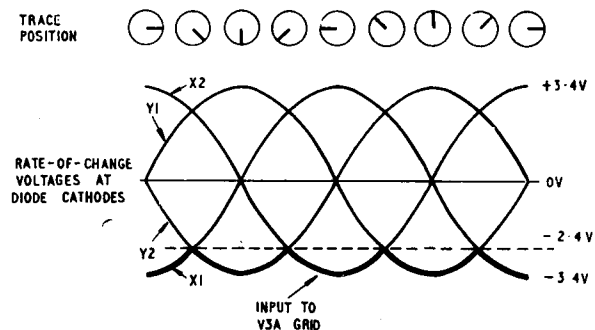

Fig. 6. Rate-of-change voltages
to negative values and back in a sinusoidal manner, taking one complete period of aerial rotation to complete the cycle. In consequence, the rate-of-change voltage resulting from differentiation varies between $-3.4V$ and $+3.4V$ during the same period. To ensure that there is always a rate-of-change voltage of correct polarity (negative) and sufficient amplitude to operate V3A and thus hold off the blanking, inputs are accepted from all four deflector coils (X1, X2, Y1, Y2). Provided the scan is operating correctly, there is then always one of the four rate-of-change voltages sufficiently negative to hold off the blanking, whatever the trace position (fig. 6).
(Note, however, that RV2 is in practice set up for the blanking condition rather than the non-blanking.) While the X1 scan is holding off the blanking via PL5, the anode of V2A is more negative than $-2.4V$, so the other three diodes are backed off and have no effect on the circuit. As the scan comes round to the S.E. 45 deg. position, X1 input moves less negative towards $-2.4V$, and Y2 input at PL4 moves more negative towards the same value, so that control of the circuit passes from X1 to Y2 coil as the trace moves through the 45 deg. position. The actual voltage applied to V3A grid is shown by the heavy line in fig. 6.
11. When the trace is inclined at 45 deg. to the horizontal (second trace position in fig. 6), the slope of the X1 coil current sawtooth is reduced